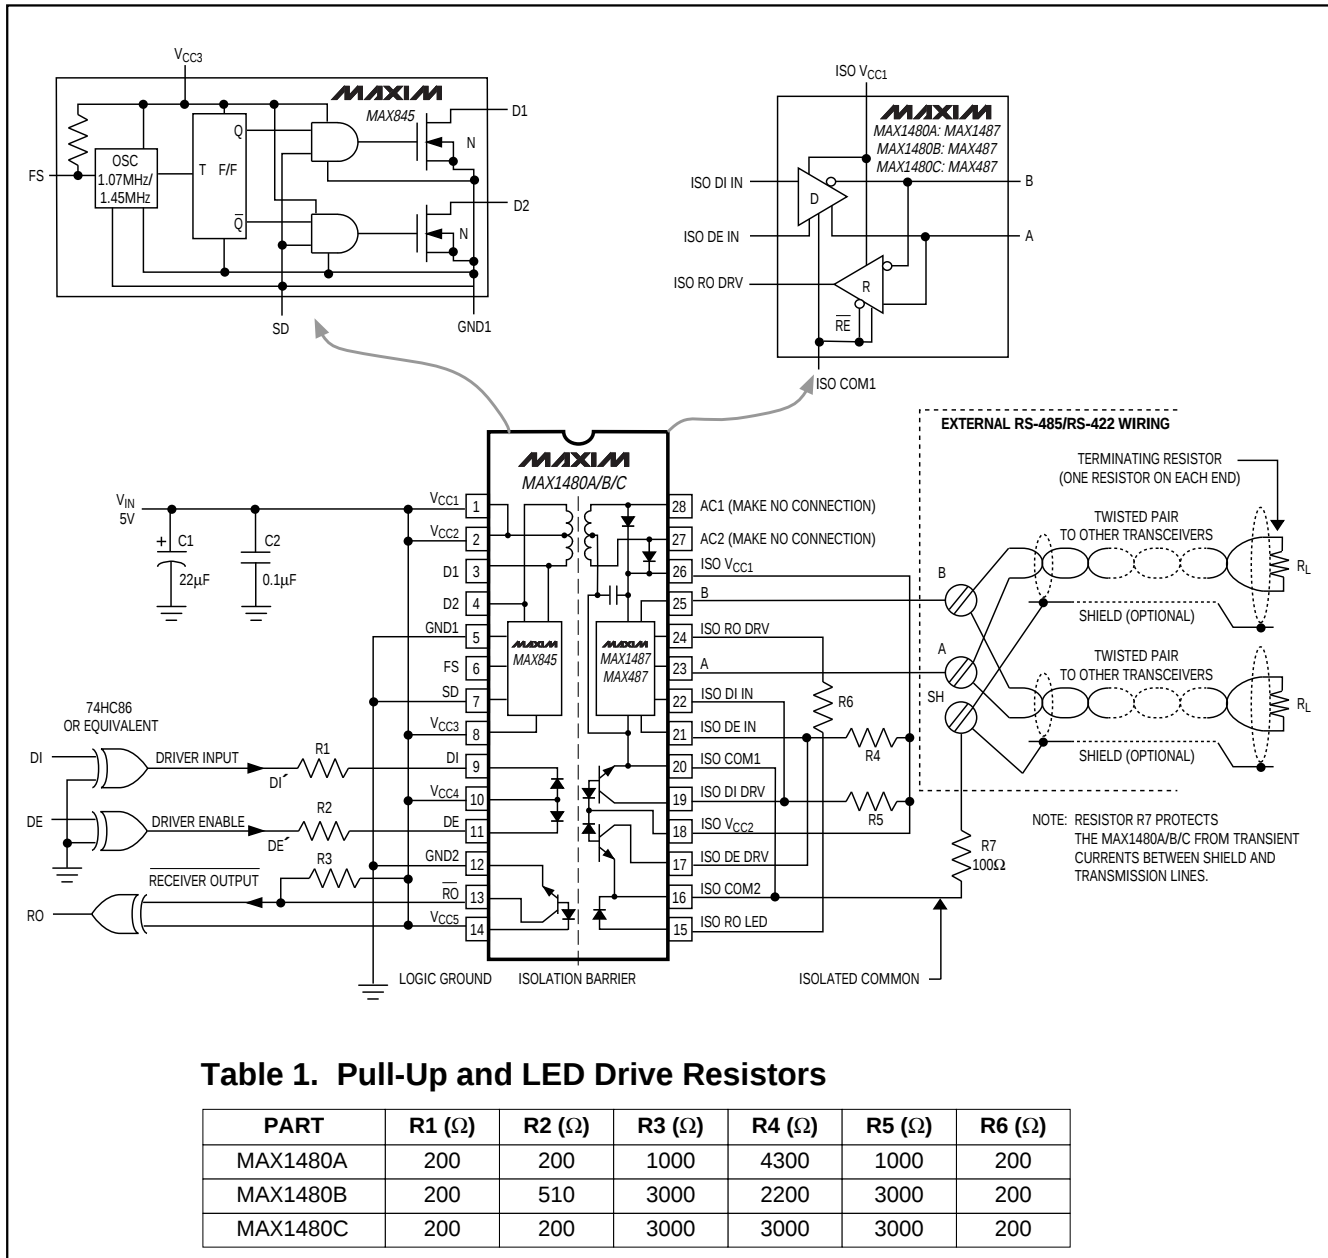
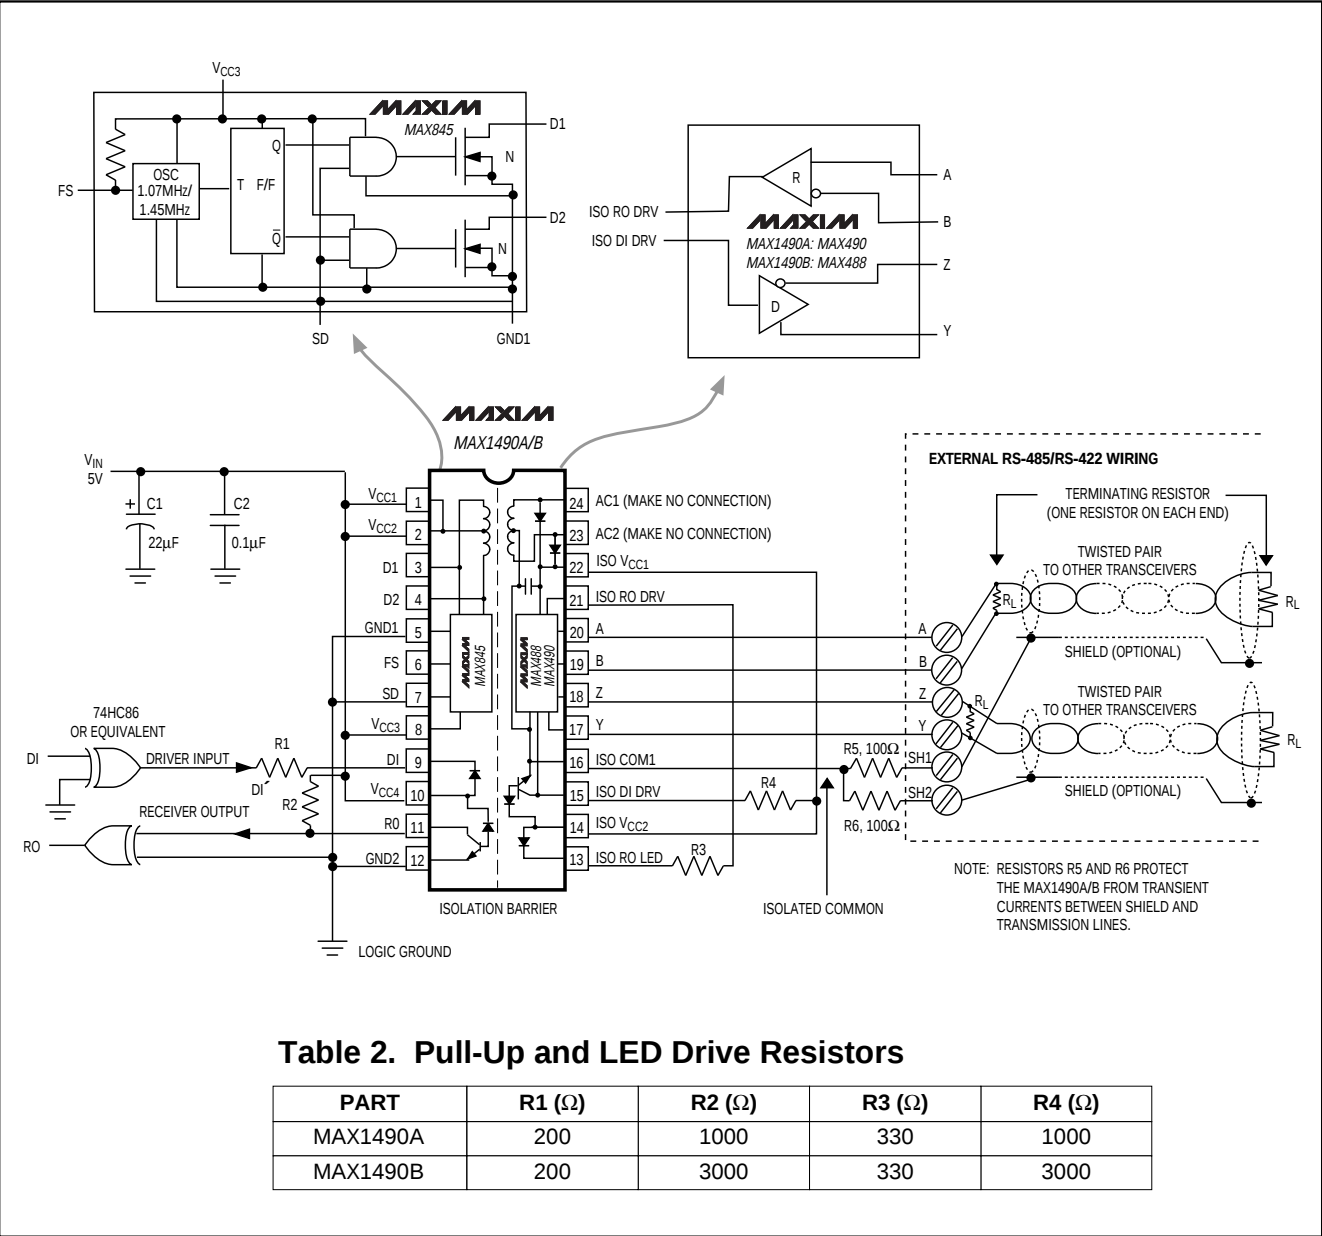

Figure 1. MAX1480A/MAX1480B/MAX1480C Detailed Block Diagram and Typical Application Circuit
Figure 2. MAX1490A/MAX1490B Detailed Block Diagram and Typical Application Circuit
Note 2: For DE⁺ and DI⁺ pin descriptions, see *Detailed Block Diagram and Typical Application Circuit* (Figure 1 for MAX1480A/MAX1480B/MAX1480C, Figure 2 for MAX1490A/MAX1490B).
Note: For DE⁺ and DI⁺ pin descriptions, see *Detailed Block Diagram and Typical Application Circuit* (Figure 1 for MAX1480A/B/C, Figure 2 for MAX1490A/B).
The MAX1480A/MAX1480B/MAX1480C/MAX1490A/MAX1490B are complete, electrically isolated, RS-485/RS-422 data-communications interface solutions. Transceivers, optocouplers, a power driver, and a transformer in one standard 28-pin DIP package (24-pin for the MAX1490A/B) provide a complete interface. Signals and power are internally transported across the isolation barrier (Figures 1, 2). Power is transferred from the logic side (non-isolated side) to the isolated side of the barrier through a center-tapped transformer. Signals cross the barrier through high-speed optocouplers. A single +5V supply on the logic side powers both sides of the interface. The MAX1480A/B/C offer half-duplex communications while the MAX1490A/B feature full-duplex communication. The functional input/output relationships are shown in Tables 3–6.
* For DE' and DI' pin descriptions, see *Detailed Block Diagram and Typical Application Circuit* (Figure 1 for MAX1480A/B/C, Figure 2 for MAX1490A/B).
The MAX1480A/MAX1480B/MAX1480C/MAX1490A/MAX1490B are specified and characterized using the resistor values shown in Table 1 of Figure 1 and Table 2 of Figure 2. Altering the recommended values can degrade performance.
The isolated common may be completely floating with respect to the logic ground and the effective network ground. The receiver input resistors will cause the isolated common voltage to go to the mean voltage of the receiver inputs. If using shielded cable, tie the isolated common to the shield through a 100Ω resistor. In the case of the MAX1490, each shield should have its own 100Ω resistor (Figures 1, 2, 13, and 14).